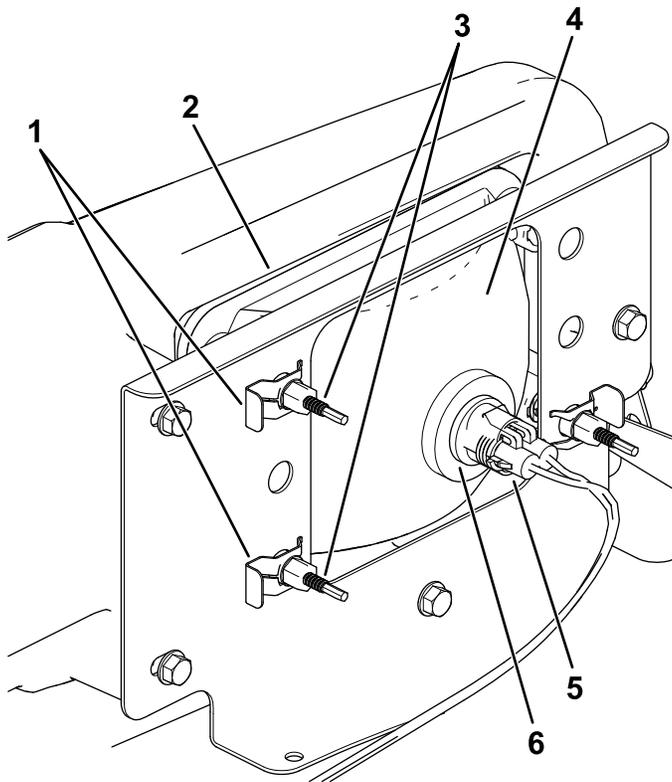

Figure 54
3. Disconnect the electrical connector for the harness from the connector of the lamp assembly (Figure 54).
4. Remove the speed clips that secure the headlight to the headlight bracket (Figure 54).
5. Remove the headlight assembly by moving it forward through the opening in the front bumper (Figure 54).
6. Install the new headlight through the opening in the bumper (Figure 54).
8. Connect the electrical connector for the harness to the connector of the lamp assembly (Figure 54).
5. At the back of the headlight assembly, rotate adjustment screws (Figure 54) to pivot the headlight assembly and align the position of the cast beam.